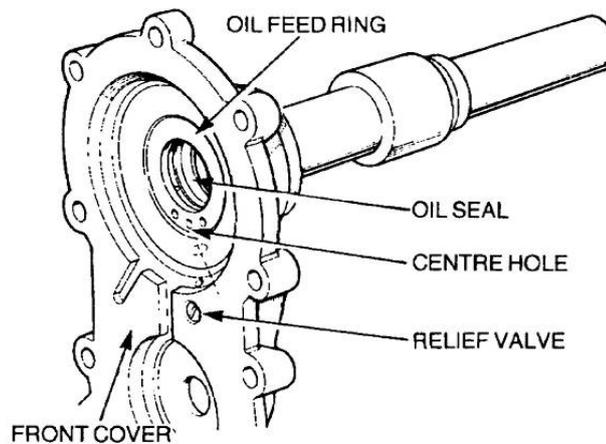

Figure 195 Installation of the Oil Feed Ring and Relief Valve
- ii. Align the centre oil hole on the oil feed ring with the oil delivery hole in the front cover. Using special tool 18G134 and 18G134DG, press in the oil feed ring (Figure 195).